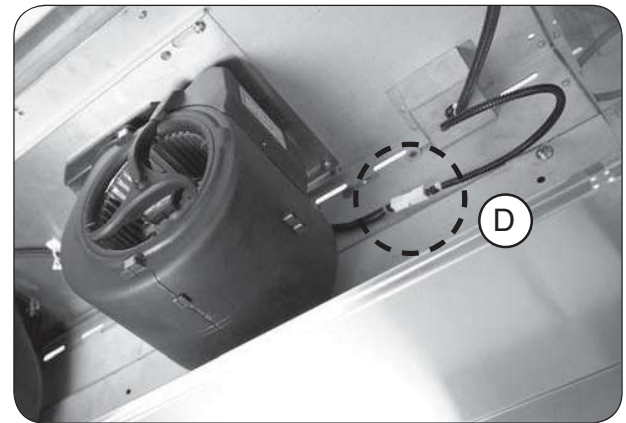

Fig. 16-3 Connect fan assembly wire
1. A wire connection exists toward the right rear of the fan assembly. This is to be connected to the wire harness coming out the right rear of the vent hood. See Fig. 16-3, D.